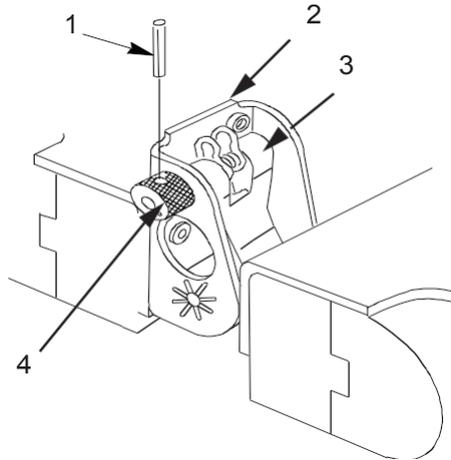
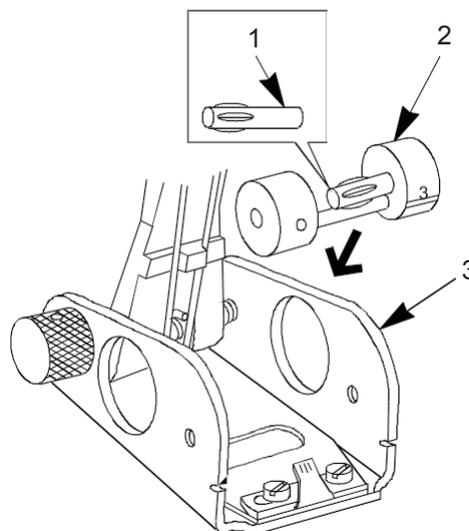

Figure 38. Rear Sight Base, Windage Knob, Machine Screw, Spring Pin.
Figure 39. Shaft, Elevator Assembly.
9. Position rear sight base (Figure 38, Item 2) in protective jawed vise. Align holes in windage knob (Figure 38, Item 4) and machine screw (Figure 39, Item 3). Insert new spring pin (Figure 38, Item 1) and drive in flush.
10. Start smooth end of new shaft (Figure 39, Item 1) into hole inside of elevator assembly (Figure 39, Item 2) (the side marked with the numeral 3).